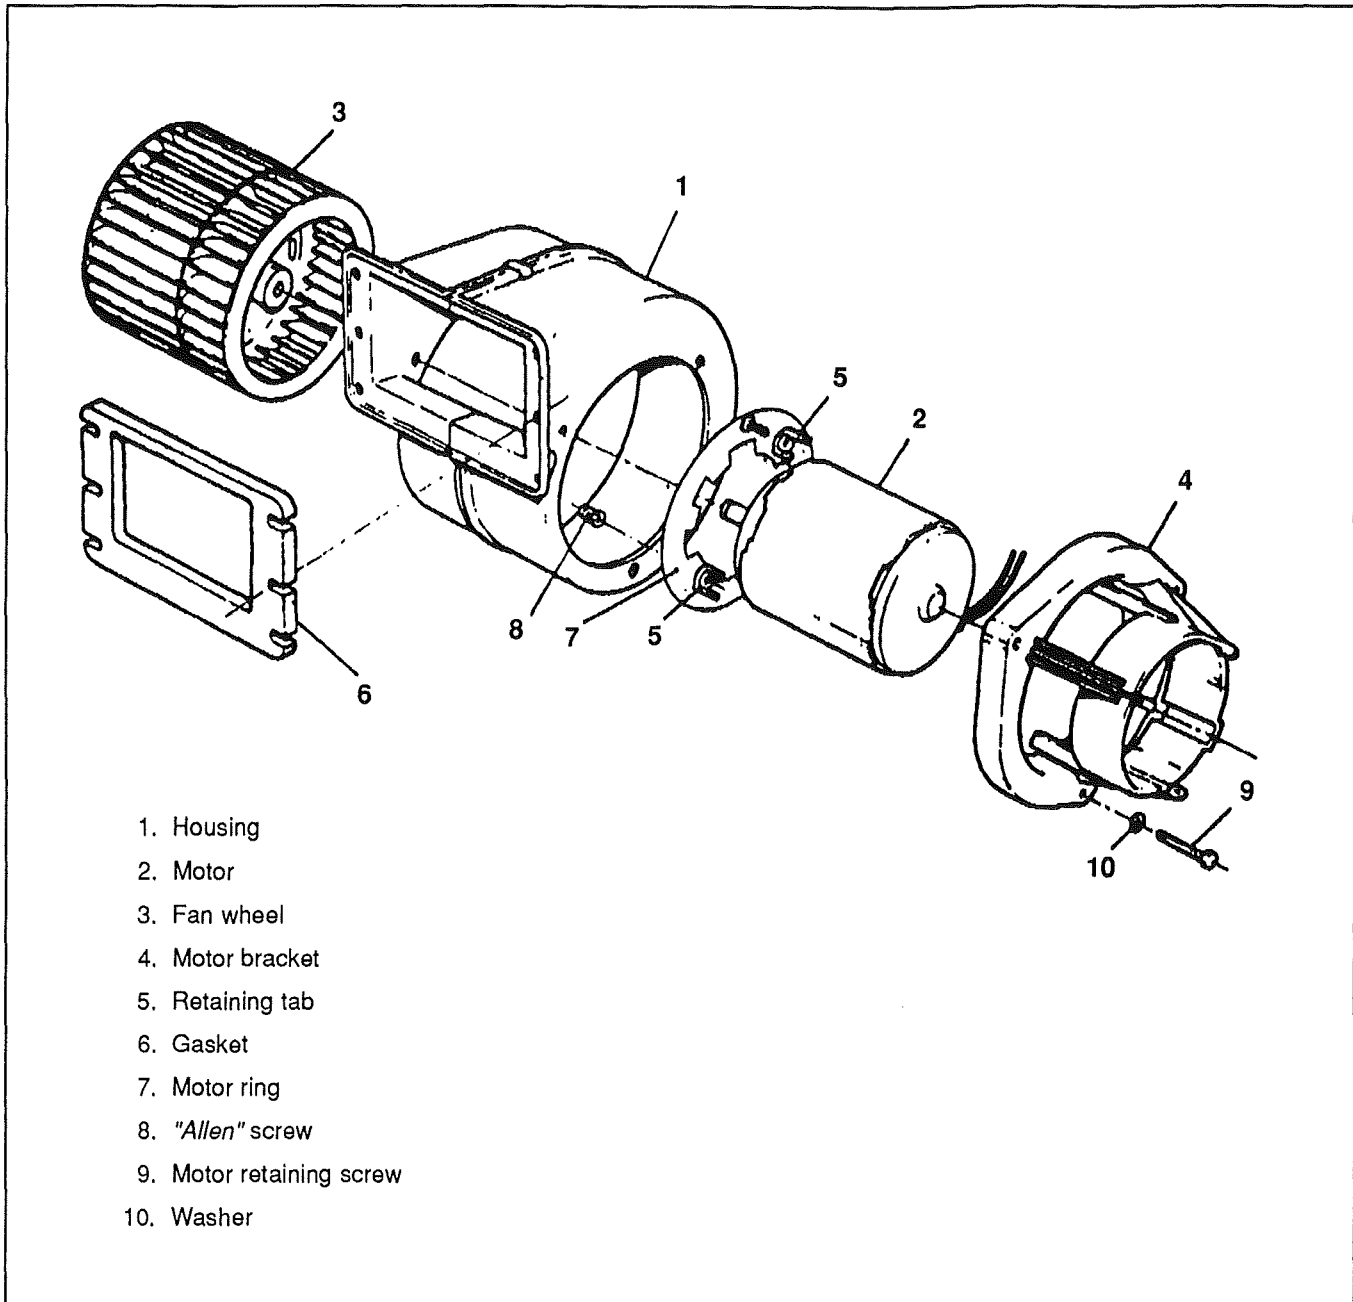

FIG. 24 - Lavatory ventilation fan and motor disassembly
7. Separate the housing by removing the six (6) retaining clips.
8. Unscrew the "Allen" screw retaining the fan wheel on the shaft and the three (3) retaining bolts of motor, then separate the motor from the housing. Refer to figure 24 for details.